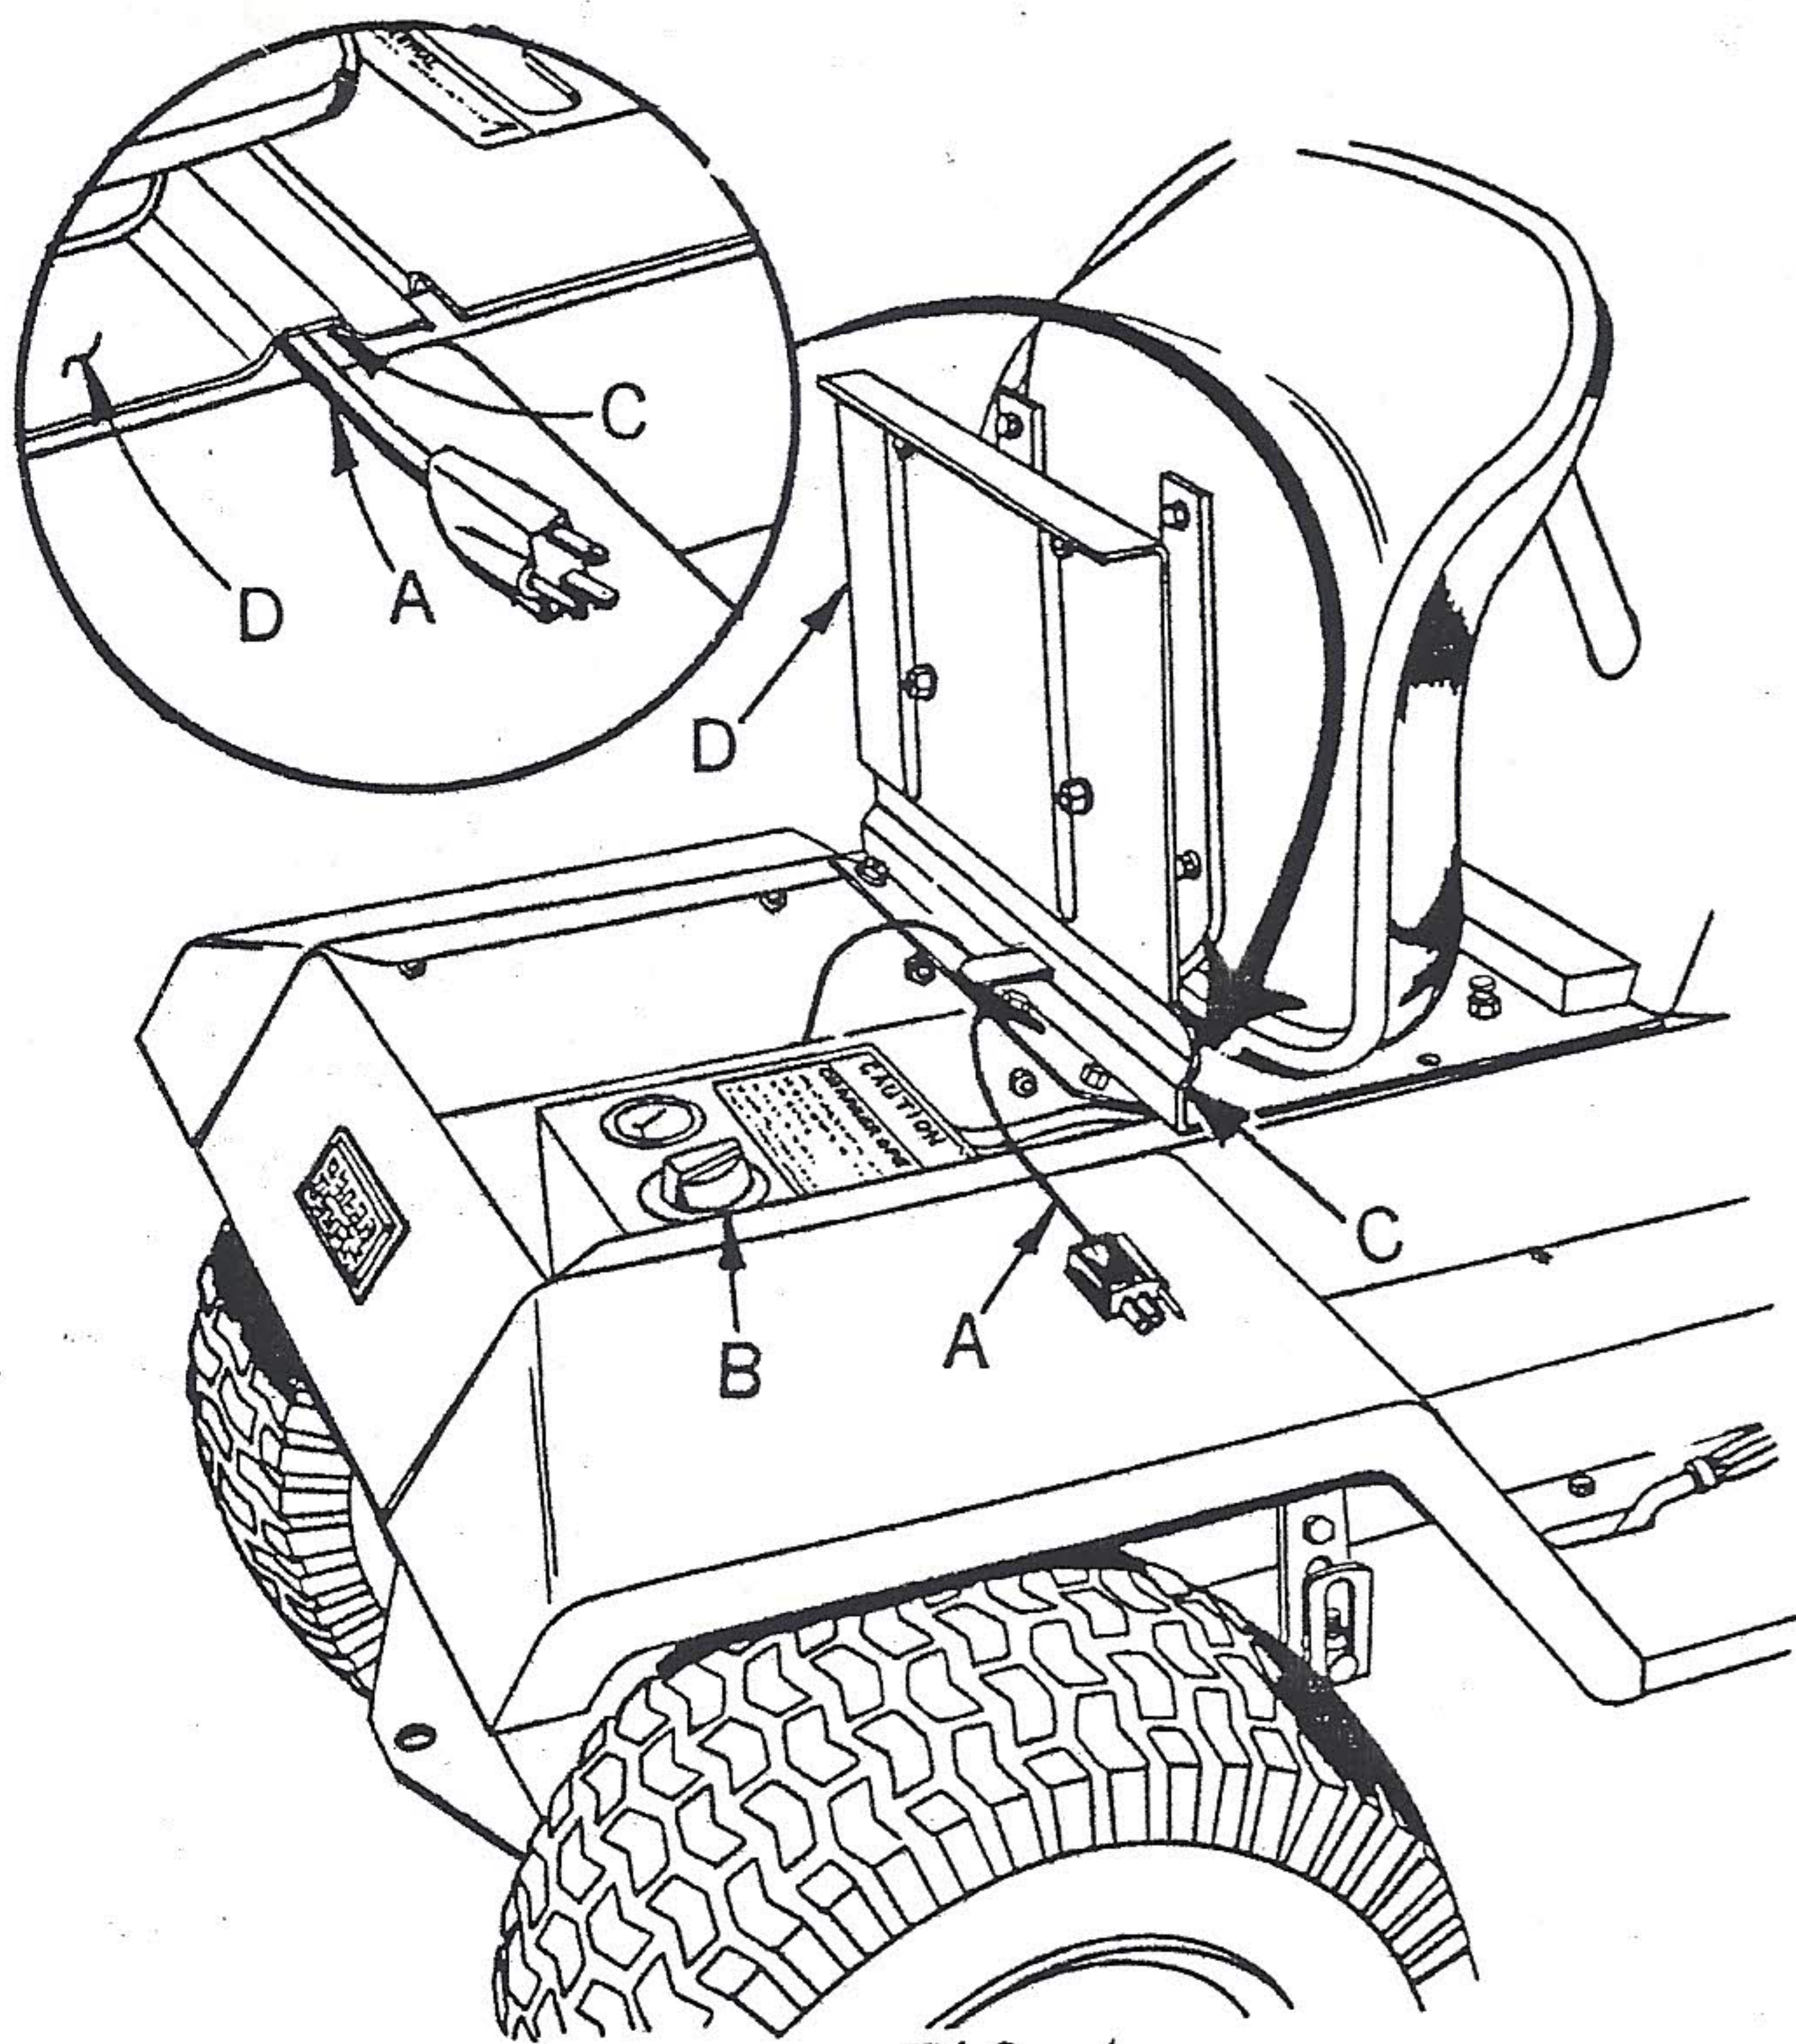

FIG. 4
8. Refer to inset on Fig. 4. Position cord (A), in groove (C), of seat plate (D). Now seat can be lowered to closed position.